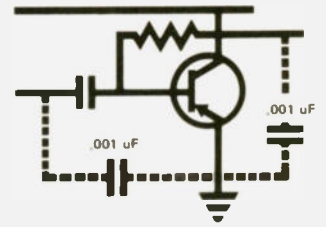

Fig. 18.
1. Interference in transistor equipment can usually be eliminated with the use of a shunt capacitor as shown in Fig. 18. A resistor/capacitor combination can be used as shown in Fig. 19. It is important that the filter network does not affect the biasing of the transistor or the frequency response of the amplifier.